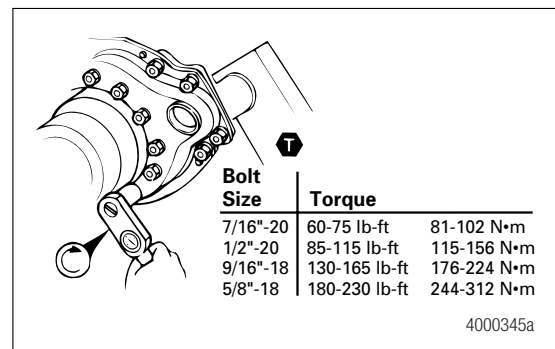

Figure 4.5
1. Tighten all spider bolts to the correct torque. Figure 4.5.
- If the camshaft bracket has been removed, install the chamber bracket seal and bracket onto the spider. Tighten the capscrews to the correct torque. Figure 4.5.